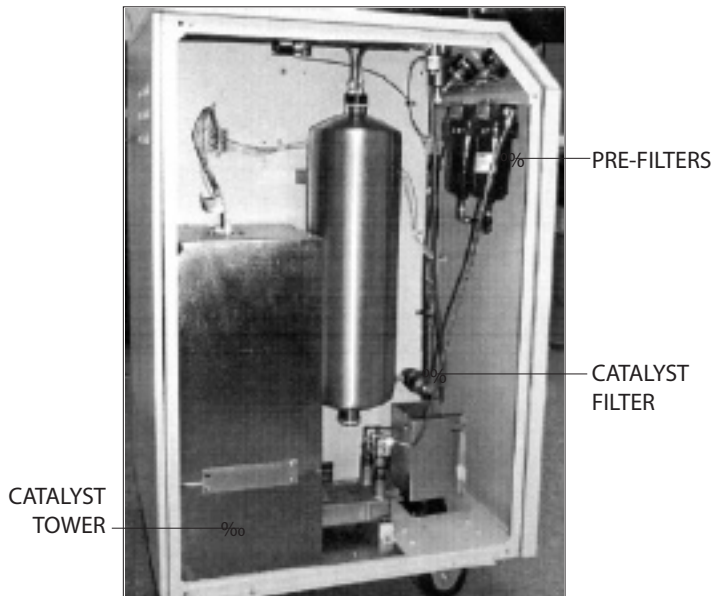

Figure 7 - Location of maintenance items: pre-filters, catalyst tower (76-98 only) and final filter (76-98 only)
The primary maintenance tasks for the Parker Balston 76-97 and 76-98 units are changing the pre-filter cartridges (P/N MK76080, annually) and for Model 76-98 only, replacing the hydrocarbon catalyst module and its filter (P/N B03-0089, 3 years). A summary of the replacement part numbers and recommended service frequency is shown at the end of this Maintenance section. See Figure 7 for the location of the pre-filters, catalyst module and filter. Additional coalescing pre-filter cartridges and particulate filter cartridges may be ordered through your local representative.
- 5 To change the cartridge in the filter for the catalyst module (see Figures 7 and 11), unscrew the filter bowl from the filter head, remove the bowl and then the old cartridge, replace the cartridge with the new one, and screw the bowl back onto the filter head.